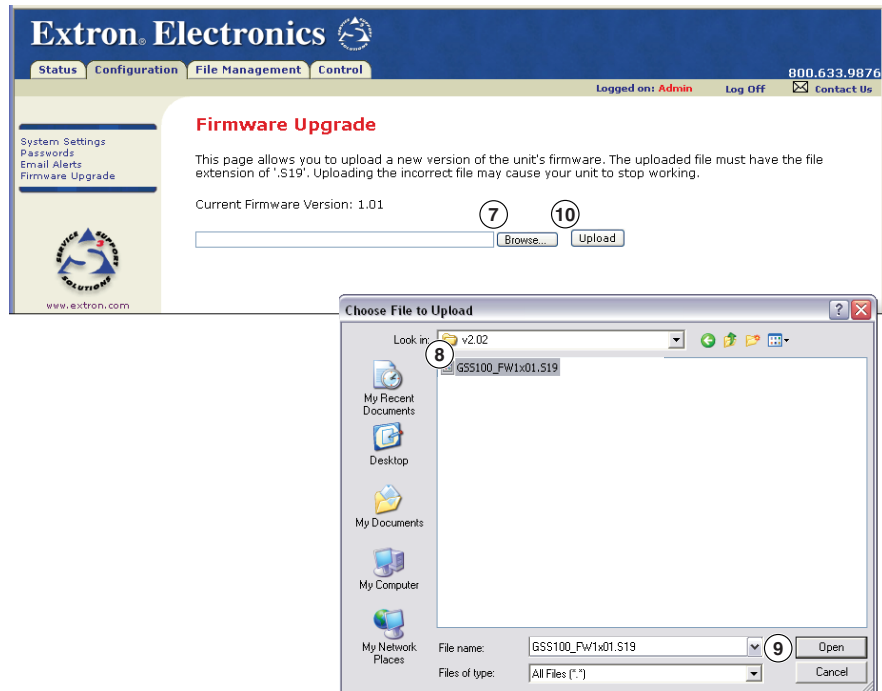

Figure 26. Firmware Upgrade
6. Click the **Firmware Upgrade** link (see figure 26 on the next page).